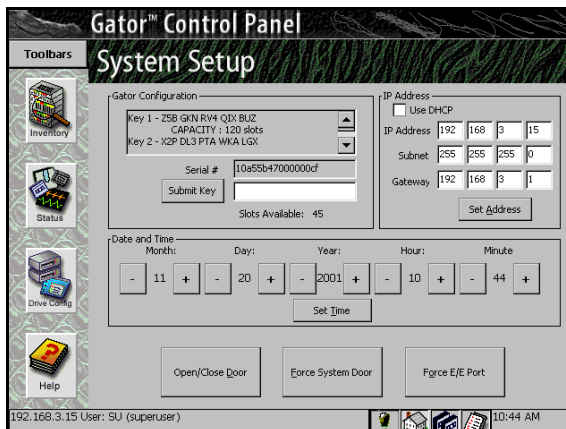

Figure 11-9 *The System Setup screen.*
1. From the General Status screen, tap **Robotics**. The System Setup screen appears (Figure 11-9).